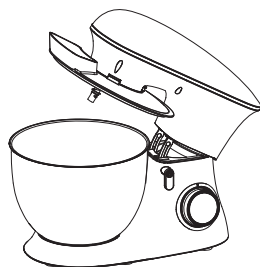

Fig. 3
3. Place the mixing bowl (5) into its holding device (A) and turn the bowl clockwise until it locks into place (B). [Fig. 3]